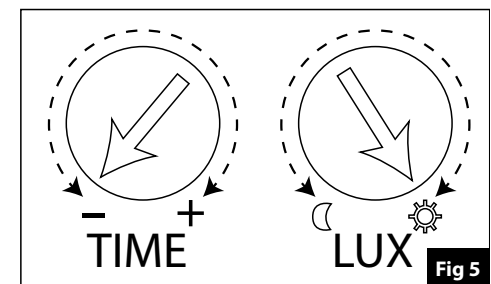

Fig 5
8. Set the Lux control to the day position (☼) and the time control to minimum. (See fig. 5 opposite).